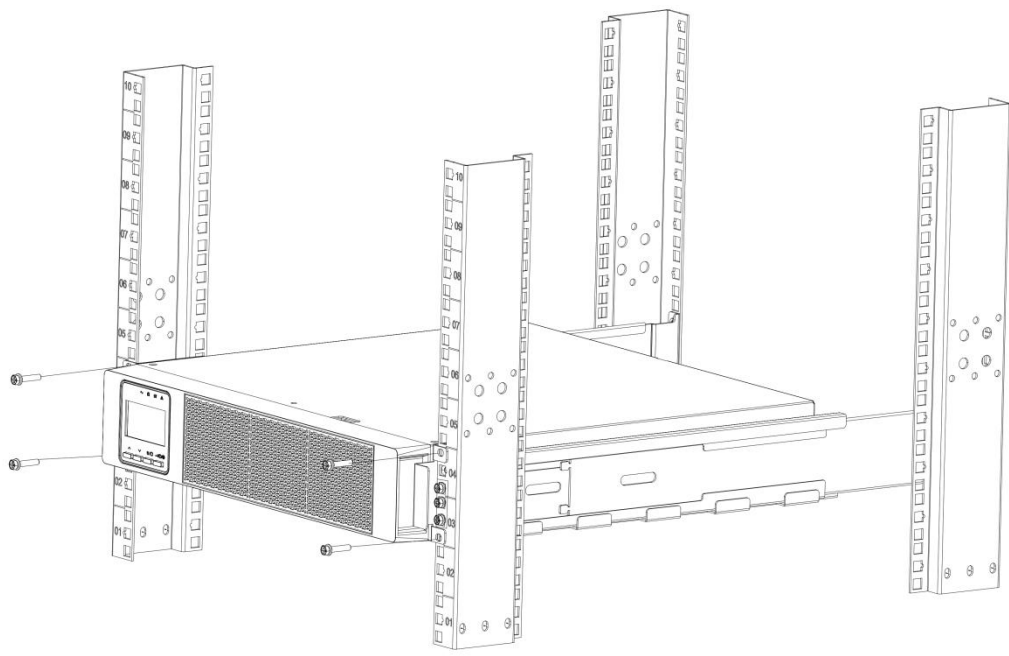

Figure 43: Secure the Mounting Brackets to the Rack MBS
40. Align the mounting brackets with the screw holes on the rack and secure the MBS with the supplied 4x Phillips Hex Head M5 screws (see Figure 43).